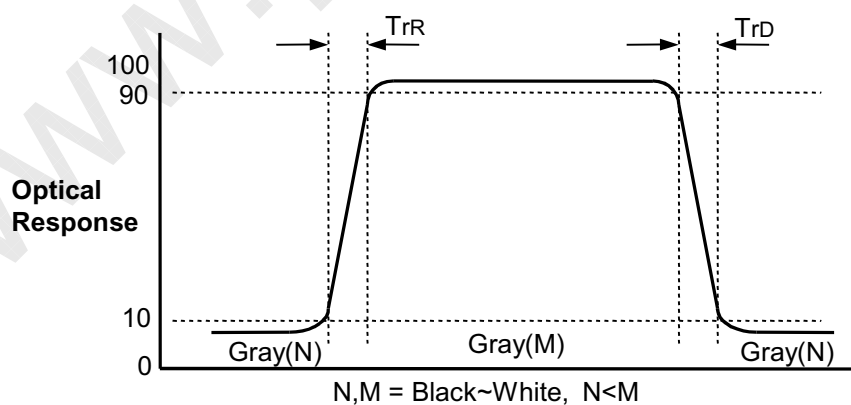

FIG.3 Response Time(G to G)
- Response time is the time required for the display to transit from any gray to white (Rise Time, Tr_R) and from any gray to black (Decay time, Tr_D). For additional information see the FIG. 3.